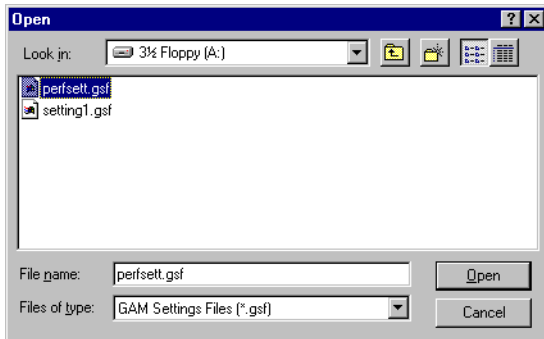

Figure 5-29. Open Previously Saved Settings
1. Click Open Settings. An Open dialog box is displayed (Figure 5-29).